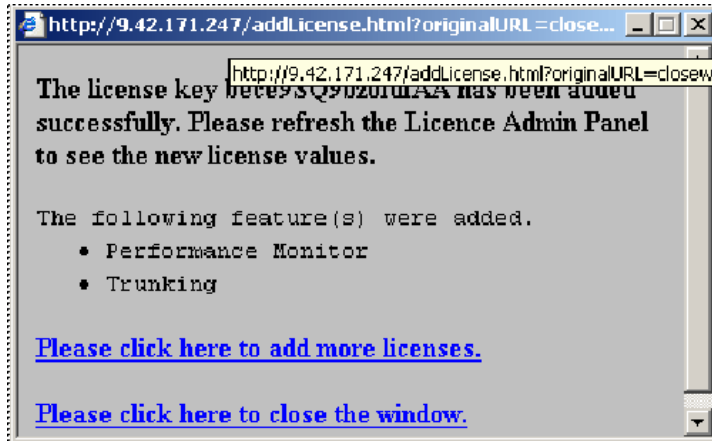

Figure 5-17 License Addition Confirmation window
8. You will receive a confirmation dialog box (Figure 5-17). Click the appropriate option to either add more licenses or close the window.